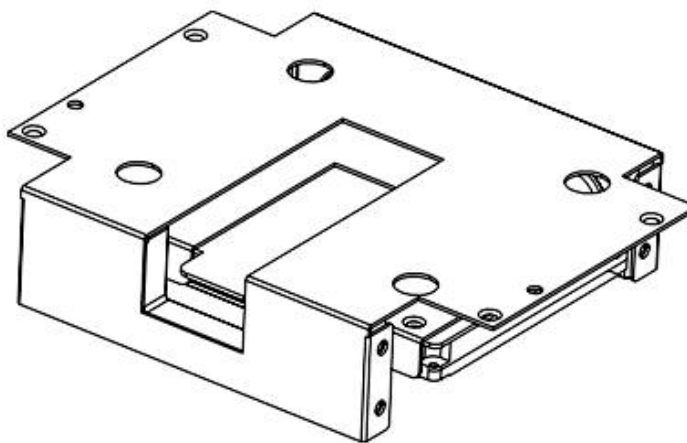

Figure 2-18
4) Now the bracket is shown as below after you fastened the HDD bolts. See Figure 2-18.